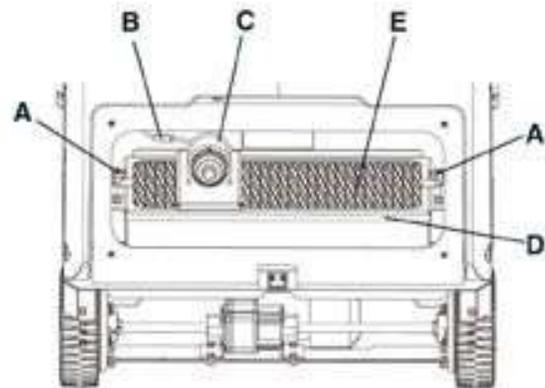

Figure9
- 1) Drive the machine on a level floor and release the pedal (2) and stop the machine.
- 2) Turn the ignition key (71) to "0".
- 3) Disengage the hook (29) by pulling its lower end.
- 4) Remove the hopper (28) by using the handle (30) and by using hand and by disengaging it from the inner guides.
- 5) Unscrew the knobs (37) and remove the filter compartment cover (36).
- 6) Loosen the knobs (A, fig.9).
- 7) Disconnect the connector (B, fig.9) from the filter shaker motor (C).
- 8) Remove the dust filter fastening frame (D, fig.9).
- 9) Remove the dust filter (E, Fig. 9).
- Install the filter (E, Fig. 9) with the wire gauze (B, fig. 10) facing upwards.